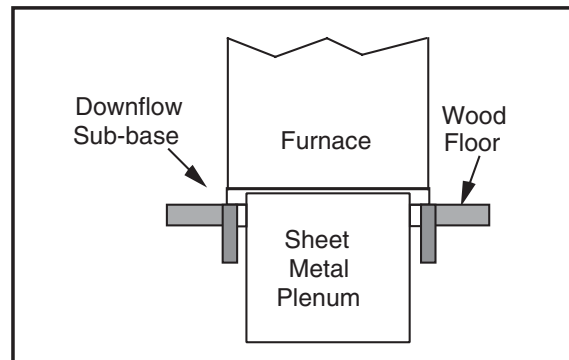

Figure 6. Furnace with Coil Assembly on a Wood Floor
3. When the furnace is installed on a factory or site-built cased air conditioning coil, the sub-base is not necessary. However, the plenum attached to the coil casing must be installed such that its surface is at least 1" from combustible material in Figure 6.